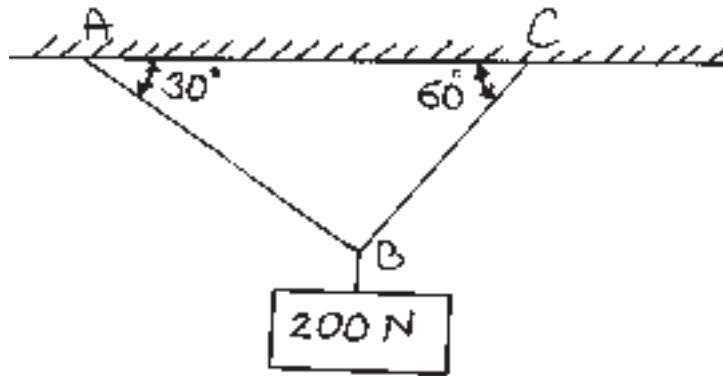

Fig. No. 5
- e) Calculate tension in the strings AB and BC if a weight of 200 N is attached by two strings as shown in Fig. No. 5.